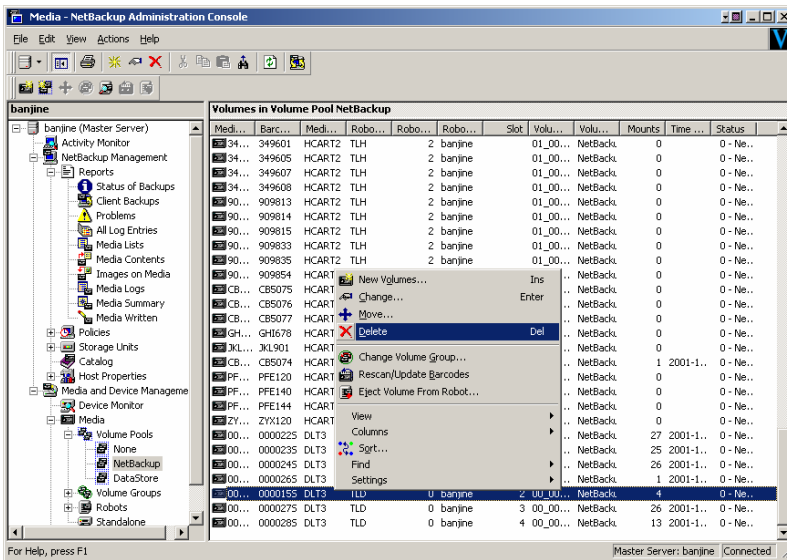

Figure 3
5. Finally, the NetBackup Administration Console can be used to delete the volume from the NetBackup volume database. This is shown in Figure 3.
6. Finally, the NetBackup Administration Console can then be used to delete the volume from the NetBackup volume database as shown in **Migrating from an existing drive technology to a different drive technology**, Section A, Step 5 and Figure 3 on page 8.
4. Delete the volume from the NetBackup volume database by following the procedure in **Migrating from an existing drive technology to a different drive technology**, Section A, Step 5 and Figure 3 on page 8.